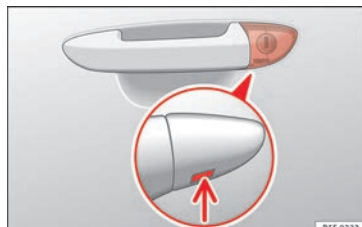

Fig. 3 Driver door lever: hidden lock cylinder.
- Insert the key shaft into the lower opening in the cover on the driver door handle » Fig. 3 (arrow) then remove the cover upwards.